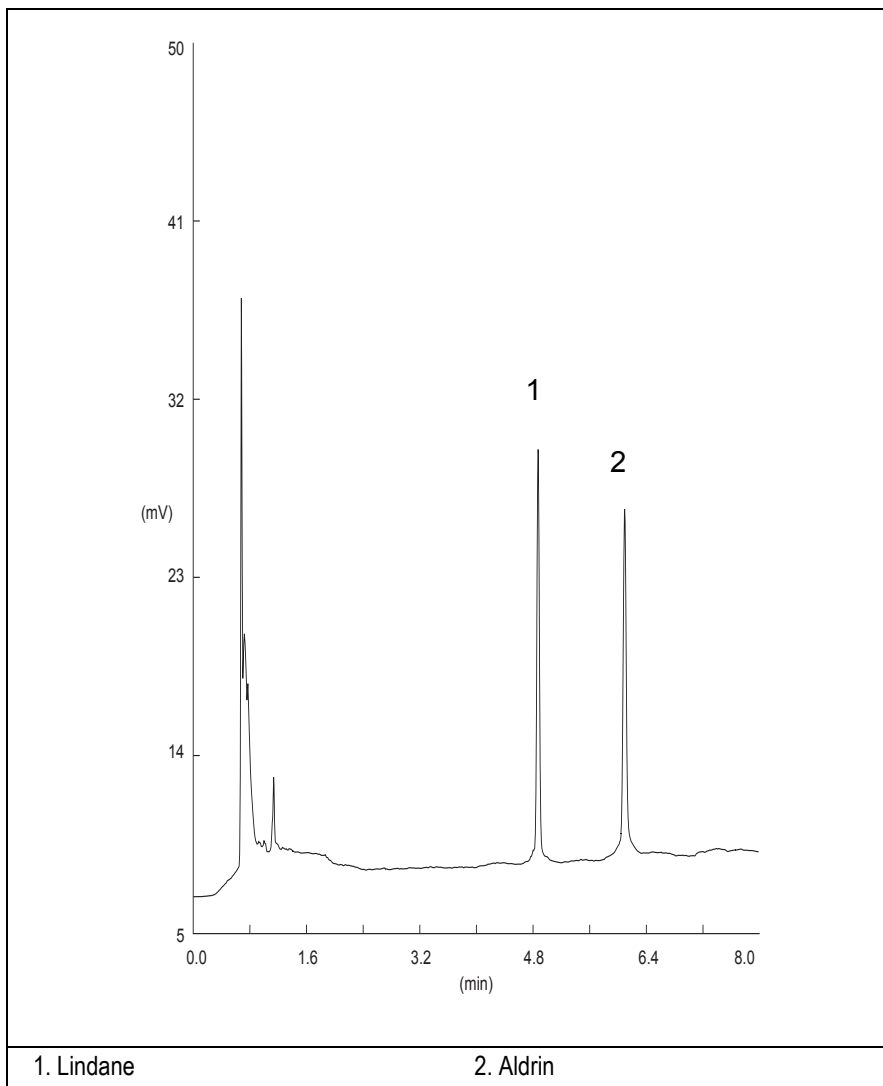

Figure 7-1. ECD-Splitless Injection
14. When the GC is ready, inject the test mixture and press **START** on the GC to begin the checkout run. The resulting chromatogram should look like the one shown in *Figure 7.1*.